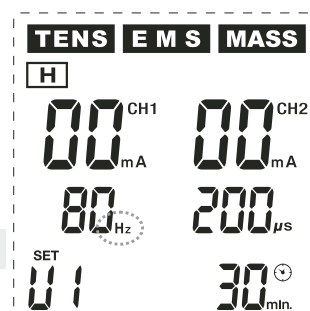
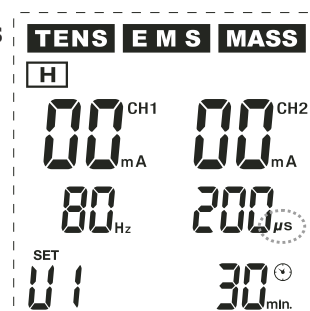
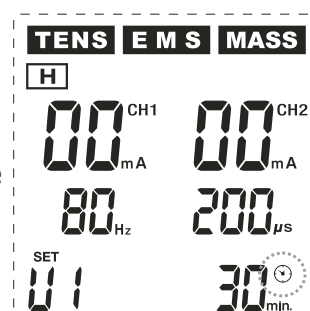

Fig. 20
Fig. 21
Fig. 22
If you have selected one of the adjustable user programmes according to section **12.1** (e. g. **U1**), you can reach the setting mode by pressing and holding the key **⑥ (P/II)** for several seconds until the display **SET** appears on the display via the number of the selected user programme (e.g. **U1**), accompanied by an acoustic signal. At the same time, **Hz** to the right of the display of the **pulse frequency** starts flashing, which signals that this value can be set now. You are now in the setting mode and can set the values according to your needs one after the other for **pulse frequency (Hz)** (see **Fig. 20**), **pulse duration (µs)** (see **Fig. 21**) and **application time (min.)** (see **Fig. 22**).